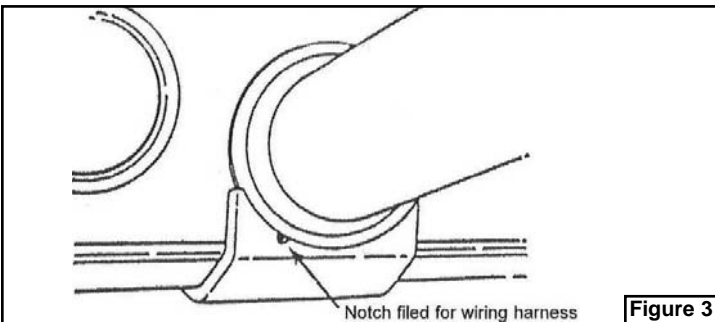

Figure 3
- c. Route switch harness down outside of steering column. On those vehicles which have a supporting clamp or lower trim panel around steering column, remove panel, feed harness through and replace panel. File notch to clear harness if panel is close fitting. See Figure 3. Make certain wires are not pinched or rubbed by moving parts. Switch harness will be connected to main wiring harness later.